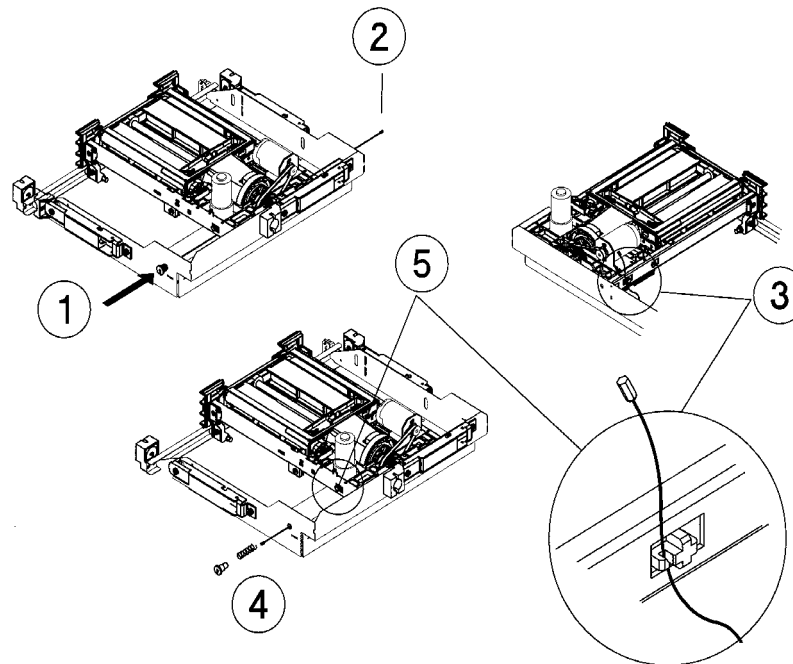

Figure 25: Releasing and Stowing the Picker Translate Cable
3. Release the translate cable from the side of the translate frame nearest the front of the jukebox (see Figure 25):
4. Release the translate cable from the side of the translate frame nearest the rear of the jukebox (see Figure 25):